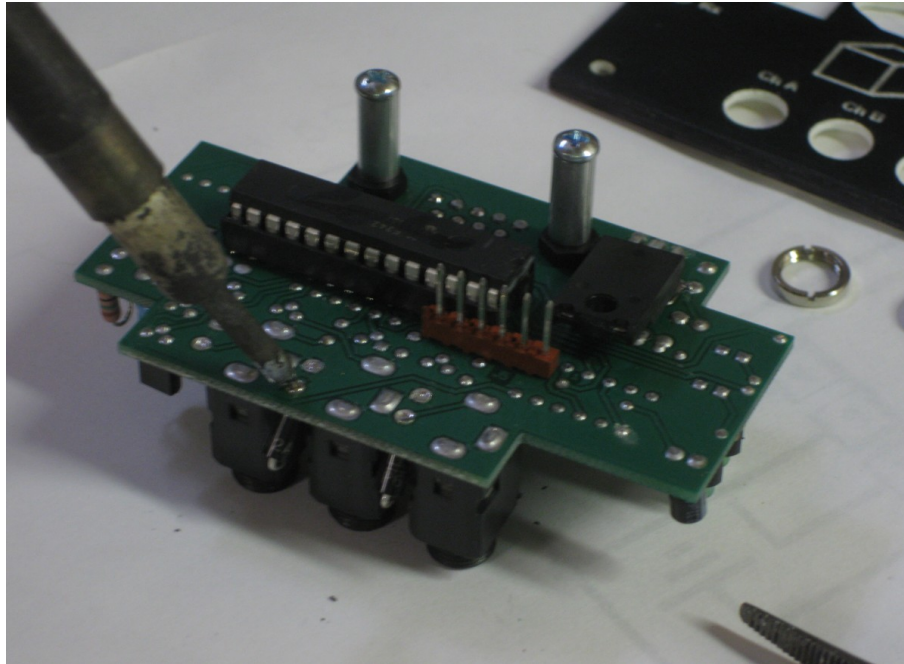

Figure 5: Loosen transient voltage suppression diodes (TVSD) component legs with a soldering iron.
- The two remaining TVSD components are somewhat more difficult to access. To remove these, it will be necessary to heat the component leads and press them partly through the board to gain a small amount of working room (see **figure 5**). This can be accomplished by heading one component leg at a time and pressing it into the board with the tip of the soldering iron. Just a small amount of movement is necessary, but pushing the component leg as far out as possible will make the next step easier.